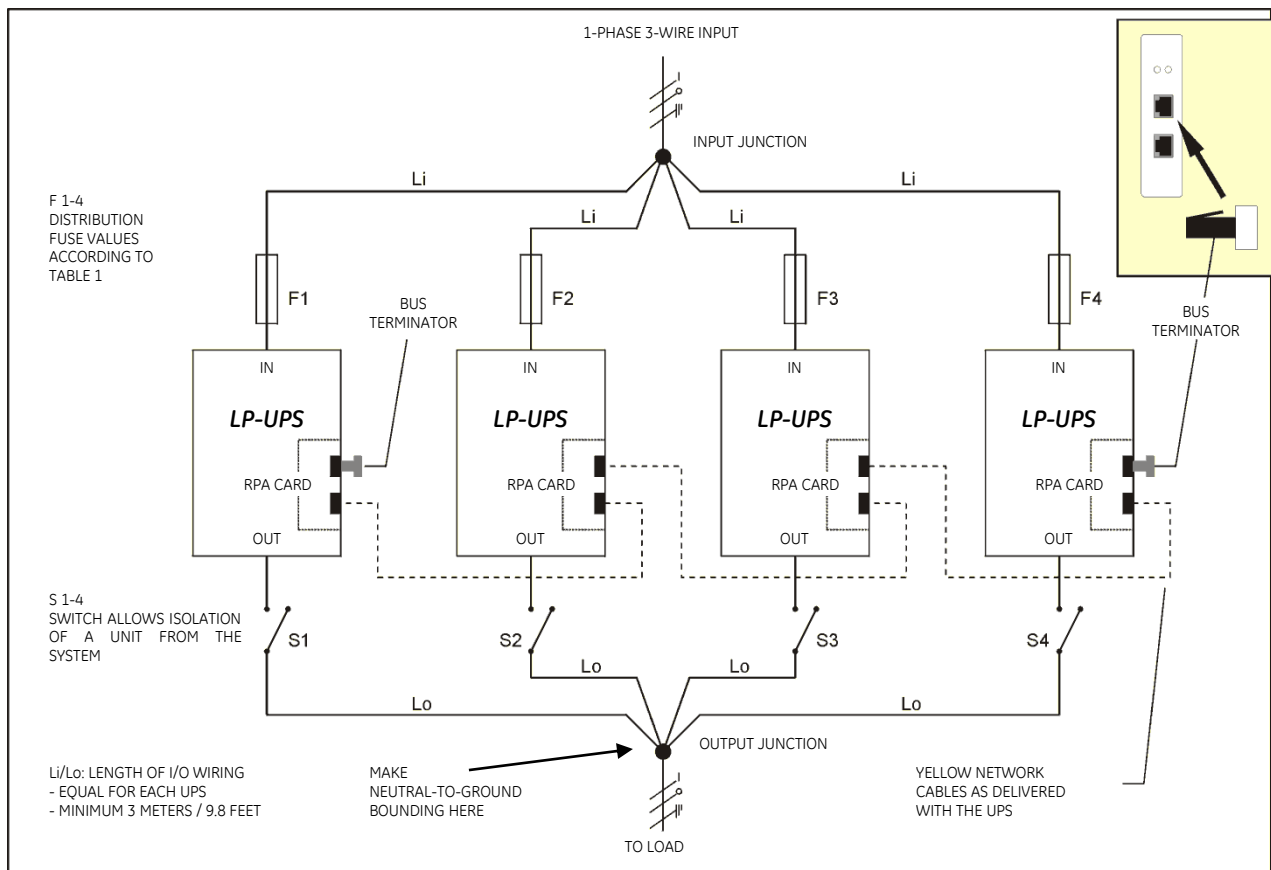

Figure 17. Installation of parallel operating LP-U UPSs
2. All outputs must be connected together, supplying the load. It is advised to install switches (S 1-4, fig. 17) in the output wiring, in order to be able to isolate a unit from the remaining system for service and maintenance purposes. It is advised to make a Neutral-to-Ground bounding in the output junction.
4. The length of all input cables from the input junction (Li, fig. 17) to the UPS inputs should be equal. The same applies to the cables from the outputs to the output junction (Lo, fig. 17). The minimum length of the input as well as the output cables is 3 meters / 10 feet.
7. Interconnect the RPA-cards of the units, using the network cable that came with the UPS. See figure 17 (dotted line). Only install the cables that were delivered with the UPSs! Of the first and the last UPS in the system only one RPA-socket is used to interconnect the UPSs. A bus terminator must be placed in the other (free) RPA-socket. The required bus terminators have been delivered with the unit.
4. Remove the input fuse from the input of UPS # (F1-4 in figure 17).
5. Separate the output of UPS # from the output junction (S1-4 in figure 17).
4. Remove the installation fuse from the input of UPS # (F1-4 in figure 17).